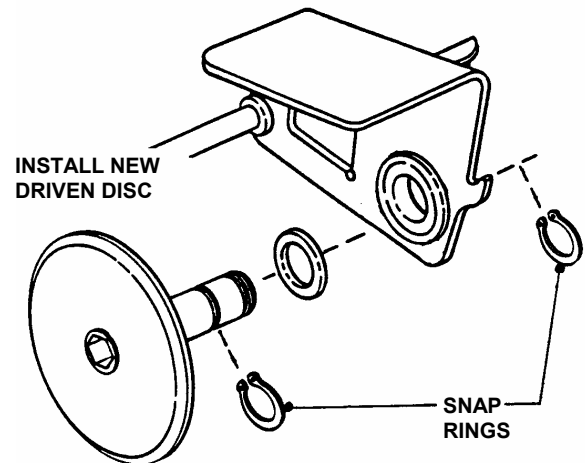

FIGURE 4.13
3. Remove the two snap rings which secure the rubber driven disc to the driven disc assembly. See Figure 4.13.
3. Remove both snap rings that secure rubber driven disc hub to thrust plate. See Figure 4.13.